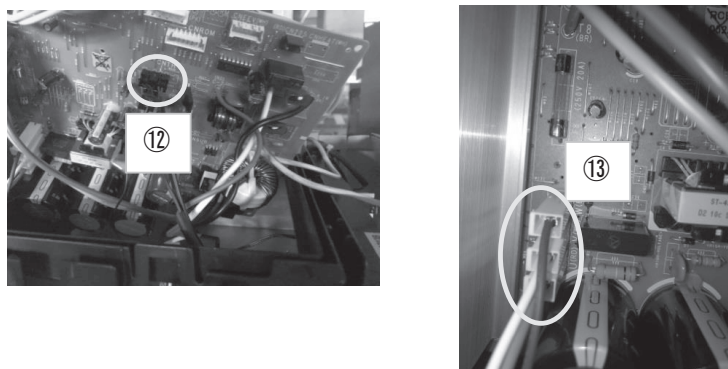

Fig.6 CnTH and power cable of compressor(U,V,W)
- 12) Disconnect CnTH(Black) on control PCB. (Fig.6 ⑫)
13) Disconnect a power cable of compressor(U,V,W) from control PCB. (Fig.6 ⑬)